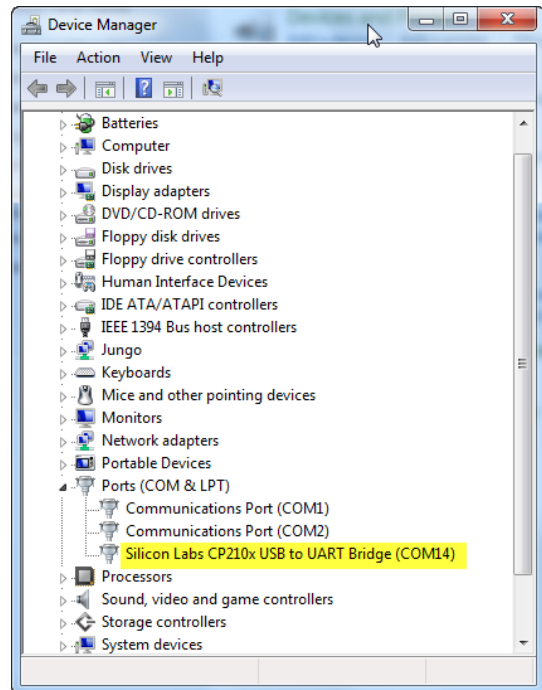

Figure 24 – Device Manager showing COM Port for A-910 Dongle
- Note the COM Port listed and select that COM Port in the A-910 Zigbee Utility software using the drop-down arrow (see **Figure 24**)